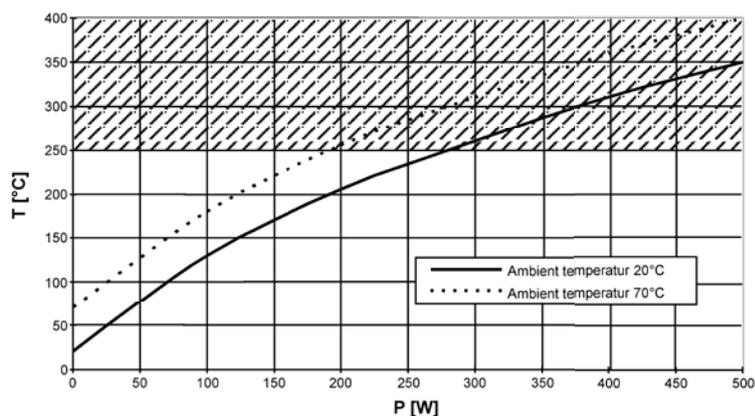

Fig. 9.10: Housing temperature ballast resistor DPRxx-200 at CDF = 100 %, max. T = 250 °C
Basis is the normal cycle time of 120 s. The casing temperature be determined with the temperature diagram in fig. 9.10 on the basis of the average power. The average power is calculated according to formula (4). The value taken from fig. 9.10 plus 5 K amounts to the casing temperature at the chosen pulse strength.